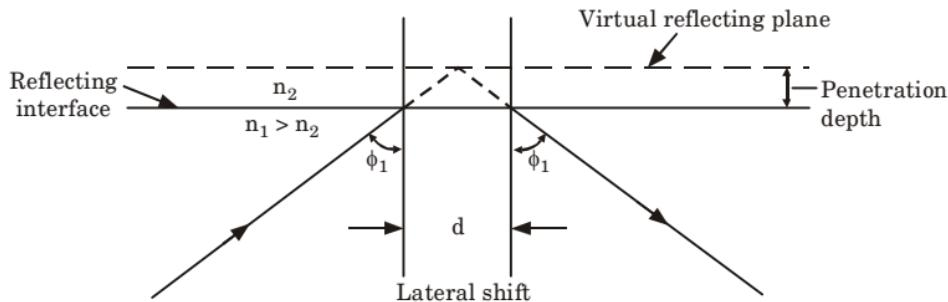

Fig. 1. The lateral displacement of a light beam on reflection at a dielectric interface (Goos-Haenchen shift).
2. Careful examination shows that the reflected beam is shifted laterally from the trajectory predicted by simple ray theory analysis, as illustrated in Fig. 1.